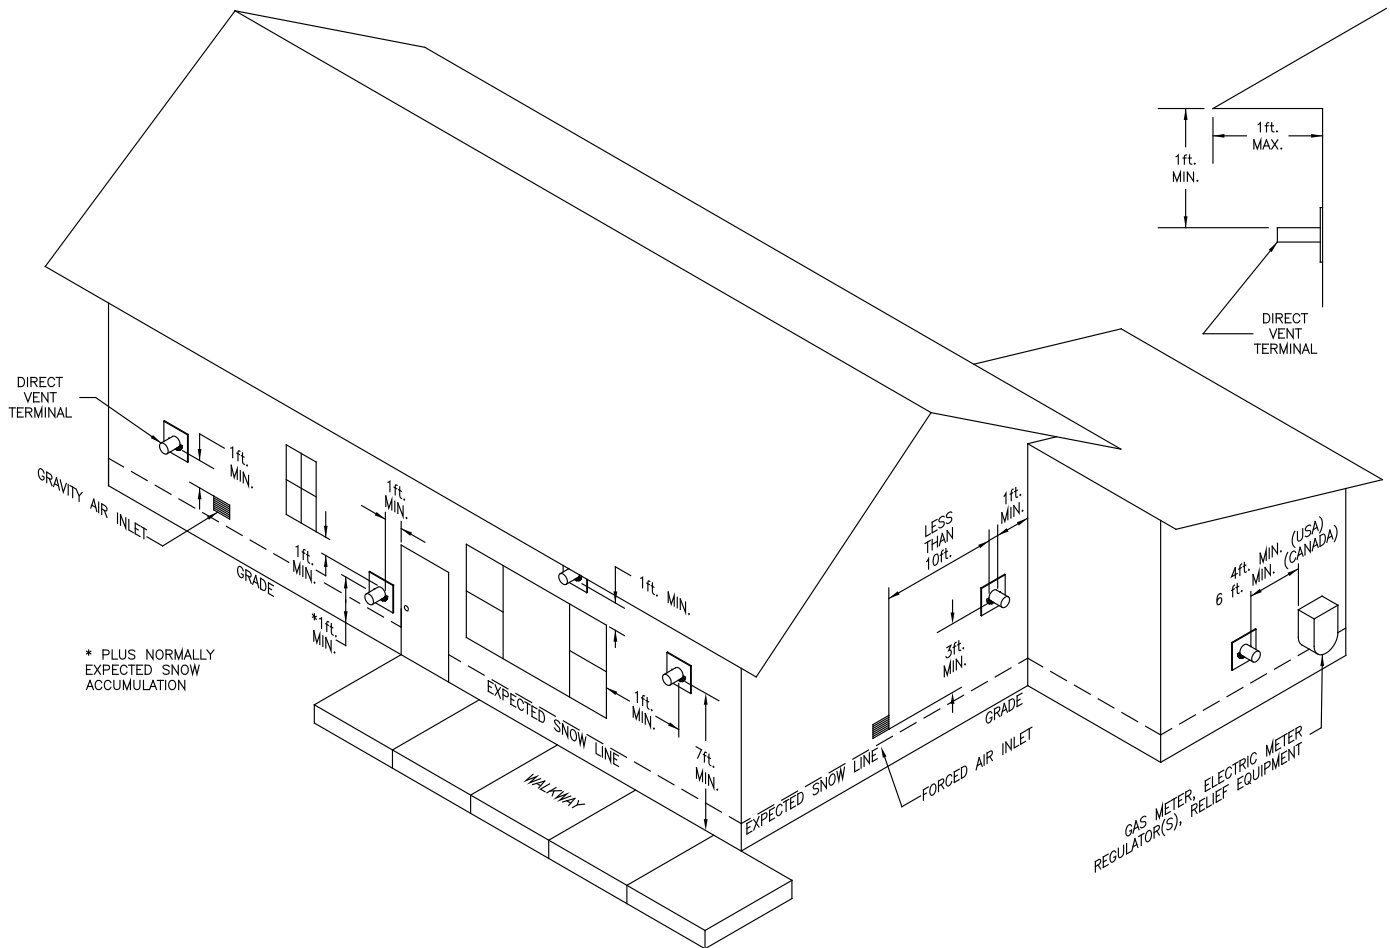

Figure B-2: Approved Terminal Locations
4. Support the piping to maintain vent location and prevent sag. The vent and/or air intake piping must be adequately supported with straps or supports with a maximum spacing of five (5) feet on horizontal runs.
8. Locate the vent terminal per these restrictions and Figure B-2: